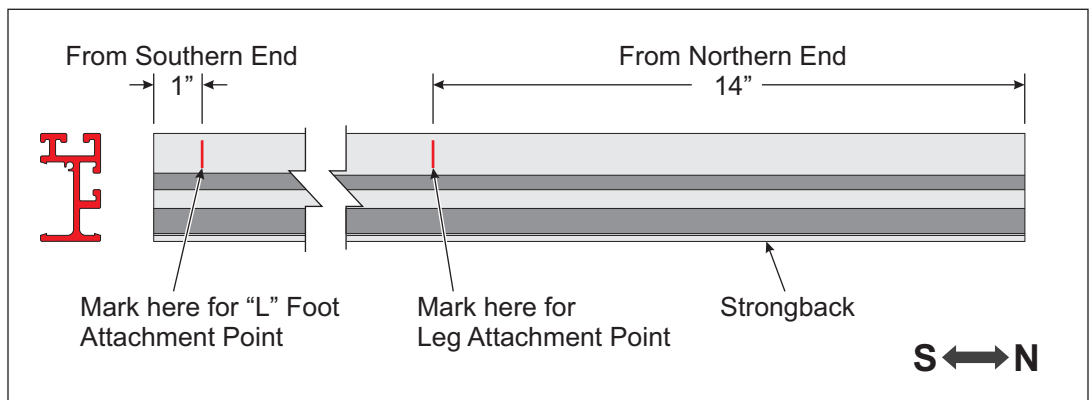

Figure 2-1: Measure and Mark Attachment Points on Strongback
- A. Refer to Figure 2-1 for Strongback profile orientation.